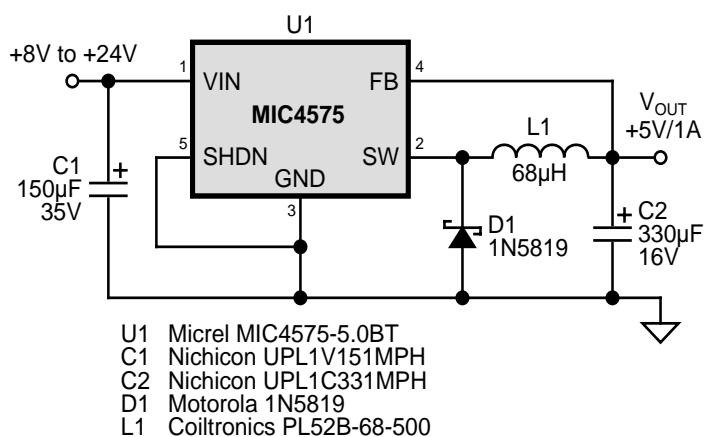
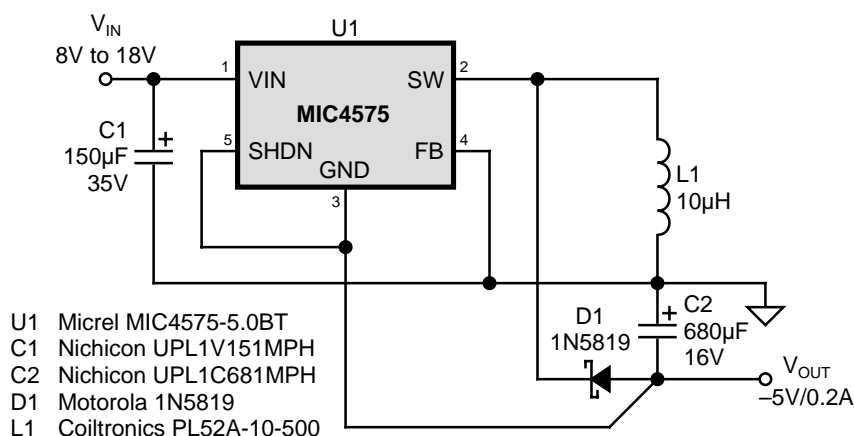
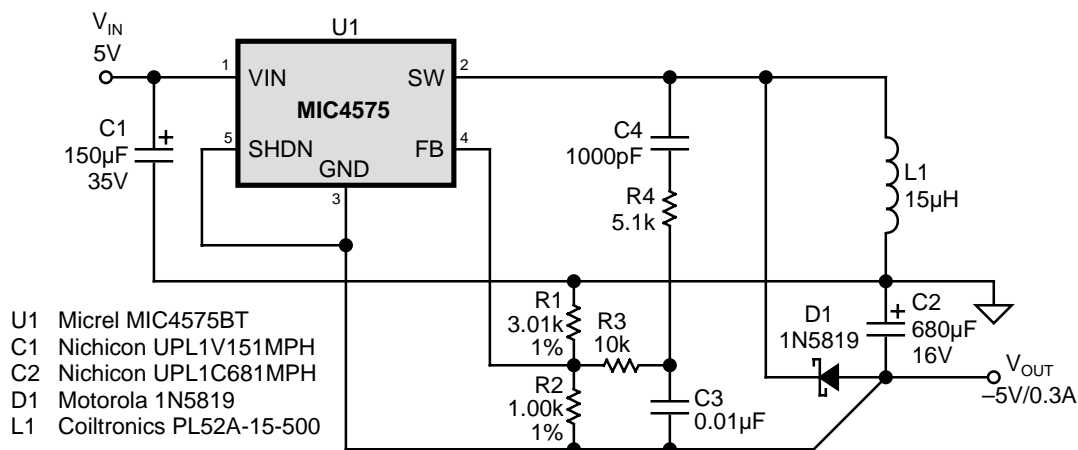

Figure 1. MIC4575 Buck Converter (8V–24V to 5V/1A)
Figure 2. MIC4575 Discontinuous Design (8V–18V to $-5V/0.2A$)
Figure 3. MIC4575 Continuous Design (5V to $-5V/0.3A$)
Many digital systems require the supply be powered up in a predetermined sequence to avoid either latching the main supply or preventing the microprocessor from coming up in an undefined state. A logic-level signal shuts off the regulator when a "high" is applied to the shutdown input. To disable the shutdown feature, the shutdown pin (SHDN) must be connected to the ground pin (GND), as in Figure 1. In shutdown, the MIC4575 draws less than 200 μ A of quiescent current.
Many analog systems require a negative supply voltage for powering op-amps. This split-supply requirement can be fulfilled easily by using the standard buck circuit of Figure 1 for the positive supply and the positive-to-negative converter of Figure 2 or Figure 3 for the negative supply.
Figure 2 shows a design that eliminates a level-shifting op amp by connecting the MIC4575 ground pin (GND) to the negative output voltage and the feedback pin (FB) to ground. The only drawback to this scheme is that the shutdown signal is now referred to the $-5V$ output instead of to ground, requiring a level-shifting transistor to implement this function.
A discontinuous design, as in Figure 2, eliminates the RHP zero because an RHP zero occurs only in continuous mode. This produces the simplest circuit, although output current is one-half and peak current is about double when compared to an equivalent continuous design.
For a continuous design, as in Figure 3, an RC network must be used to provide enough phase lead to give adequate frequency compensation. This circuit is a little more complex, but produces higher output currents.